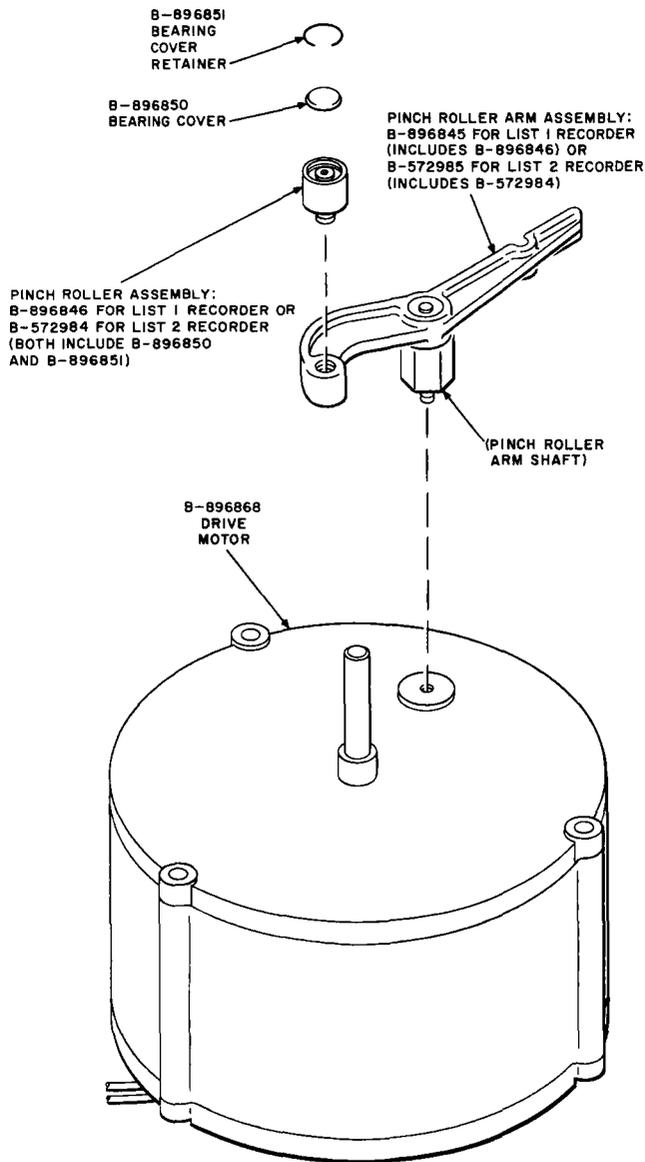

Fig. 9 — Drive Motor Assembly — Exploded View
- (1) Remove drive motor assembly as described in 3.11.
- (2) Using the 11/16-inch open-end wrench, unscrew pinch roller arm shaft (Fig. 9) from drive motor; and remove pinch roller arm assembly. Screw the shaft of new pinch roller arm assembly into drive motor, and tighten with the 11/16-inch open-end wrench.
- (3) Install drive motor assembly on tape transport as described in 3.11.
pry bearing cover retainer (Fig. 9) from the internal groove; and remove retainer and bearing cover. Using the 1/8-inch Allen wrench, remove pinch roller assembly from pinch roller arm. Install new pinch roller assembly and tighten with the 1/8-inch Allen wrench. Replace bearing cover and bearing cover retainer. Adjust pinch roller pressure to meet requirements described in Section 034-356-701.